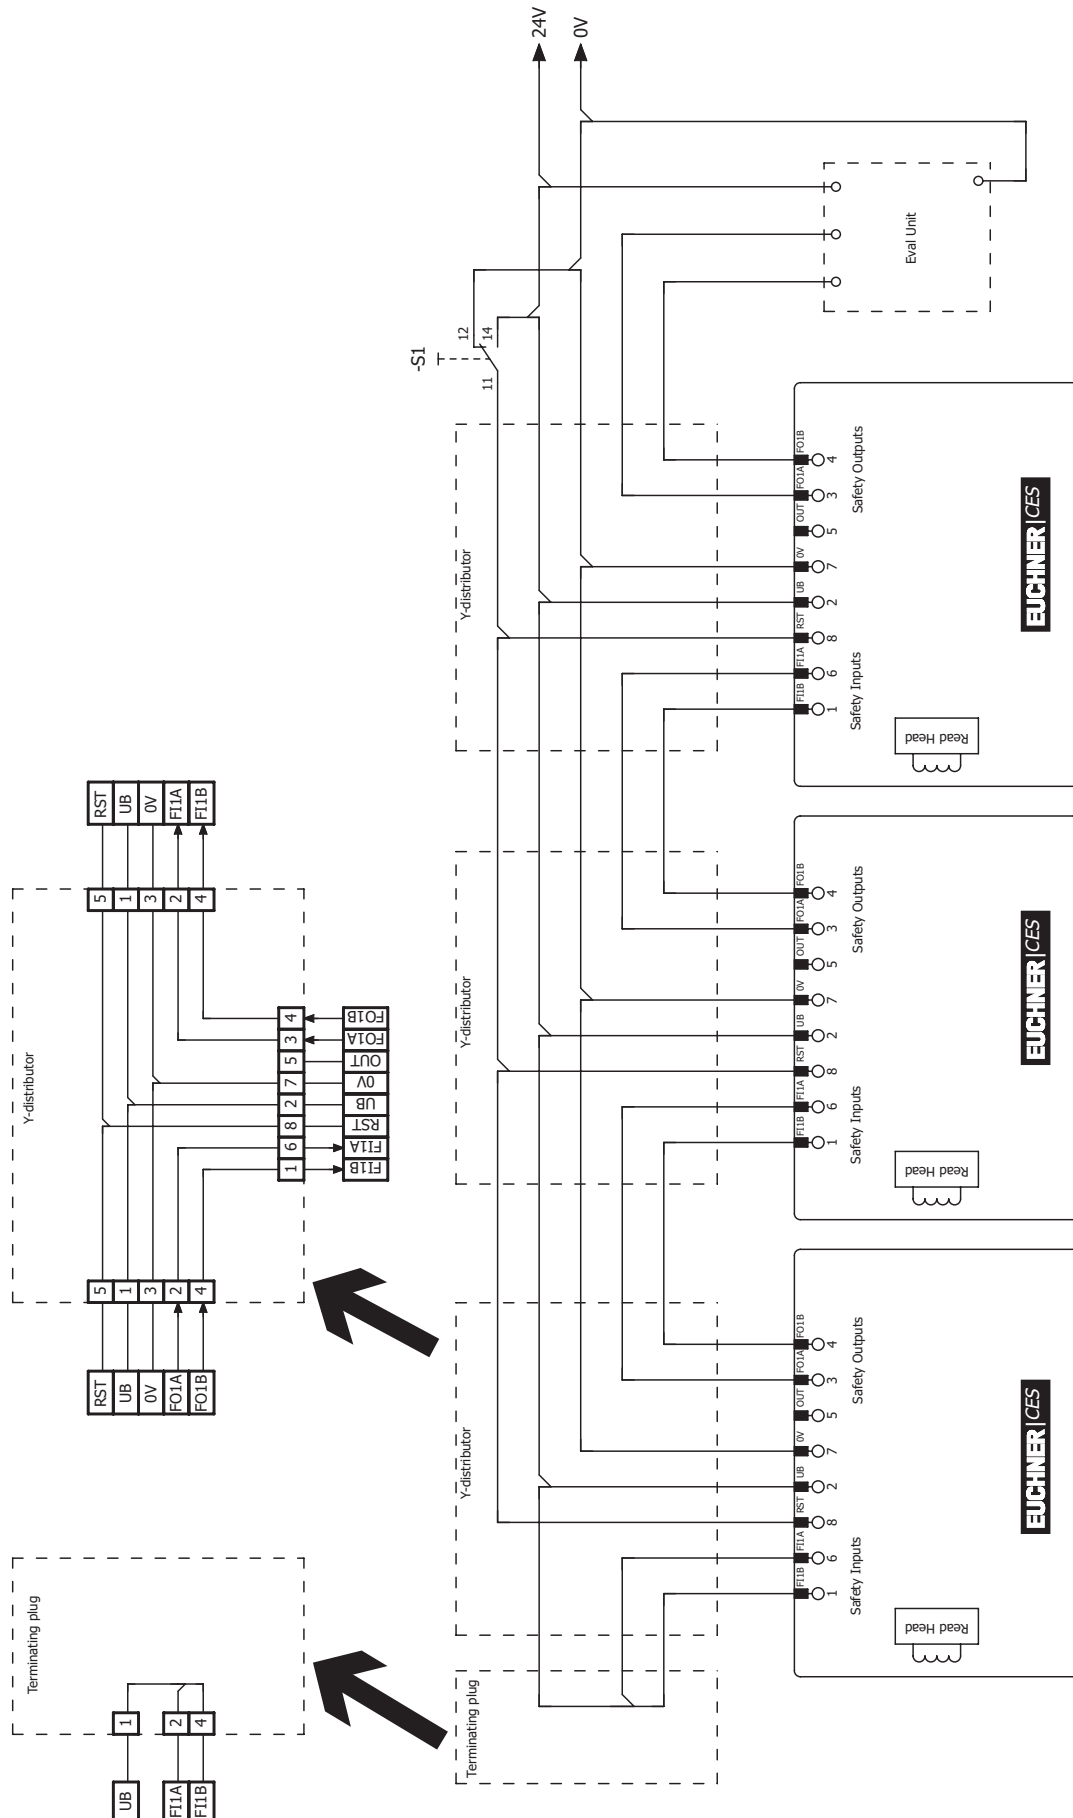

Fig. 4: Connection example for series connection with reset and changeover switch
- › A common signal must be used for all switches in the chain. This can be a changeover switch or the output of a control system. A pushbutton is not suitable because the reset must always be connected to GND during operation (see switch S1 in *Fig. 4 on page 21*).
The RST input must be connected as shown in *Fig. 4 on page 21* to permit this.